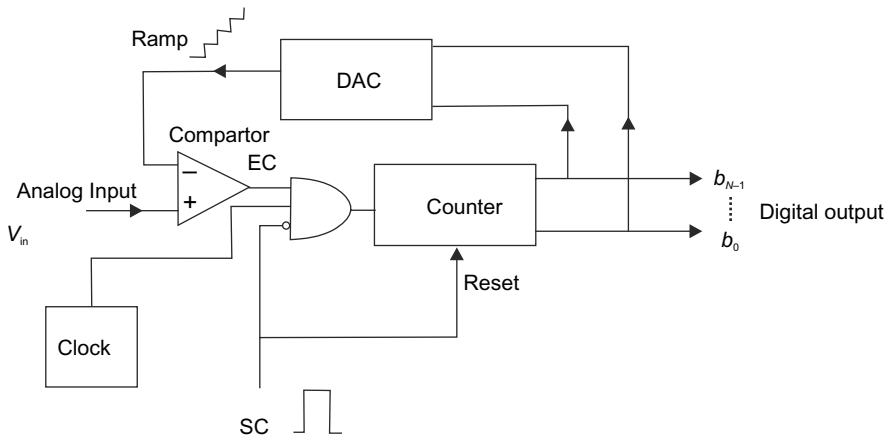

Fig. 9.42 Single-slope serial ADC with SC and EC signals
output of the counter is the desired digital output of analog voltage. Single-slope serial ADC with start of conversion (SC) and end of conversion (EC) is illustrated in Fig. 9.42. The conversion sequence of single-slope ADC is given below: